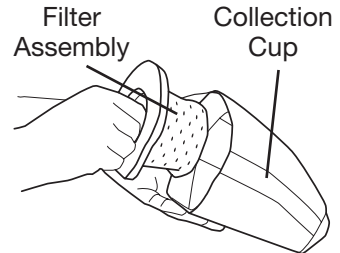

Figure 4
3. Carefully pull the filter assembly outward and remove. (See Figure 4.)